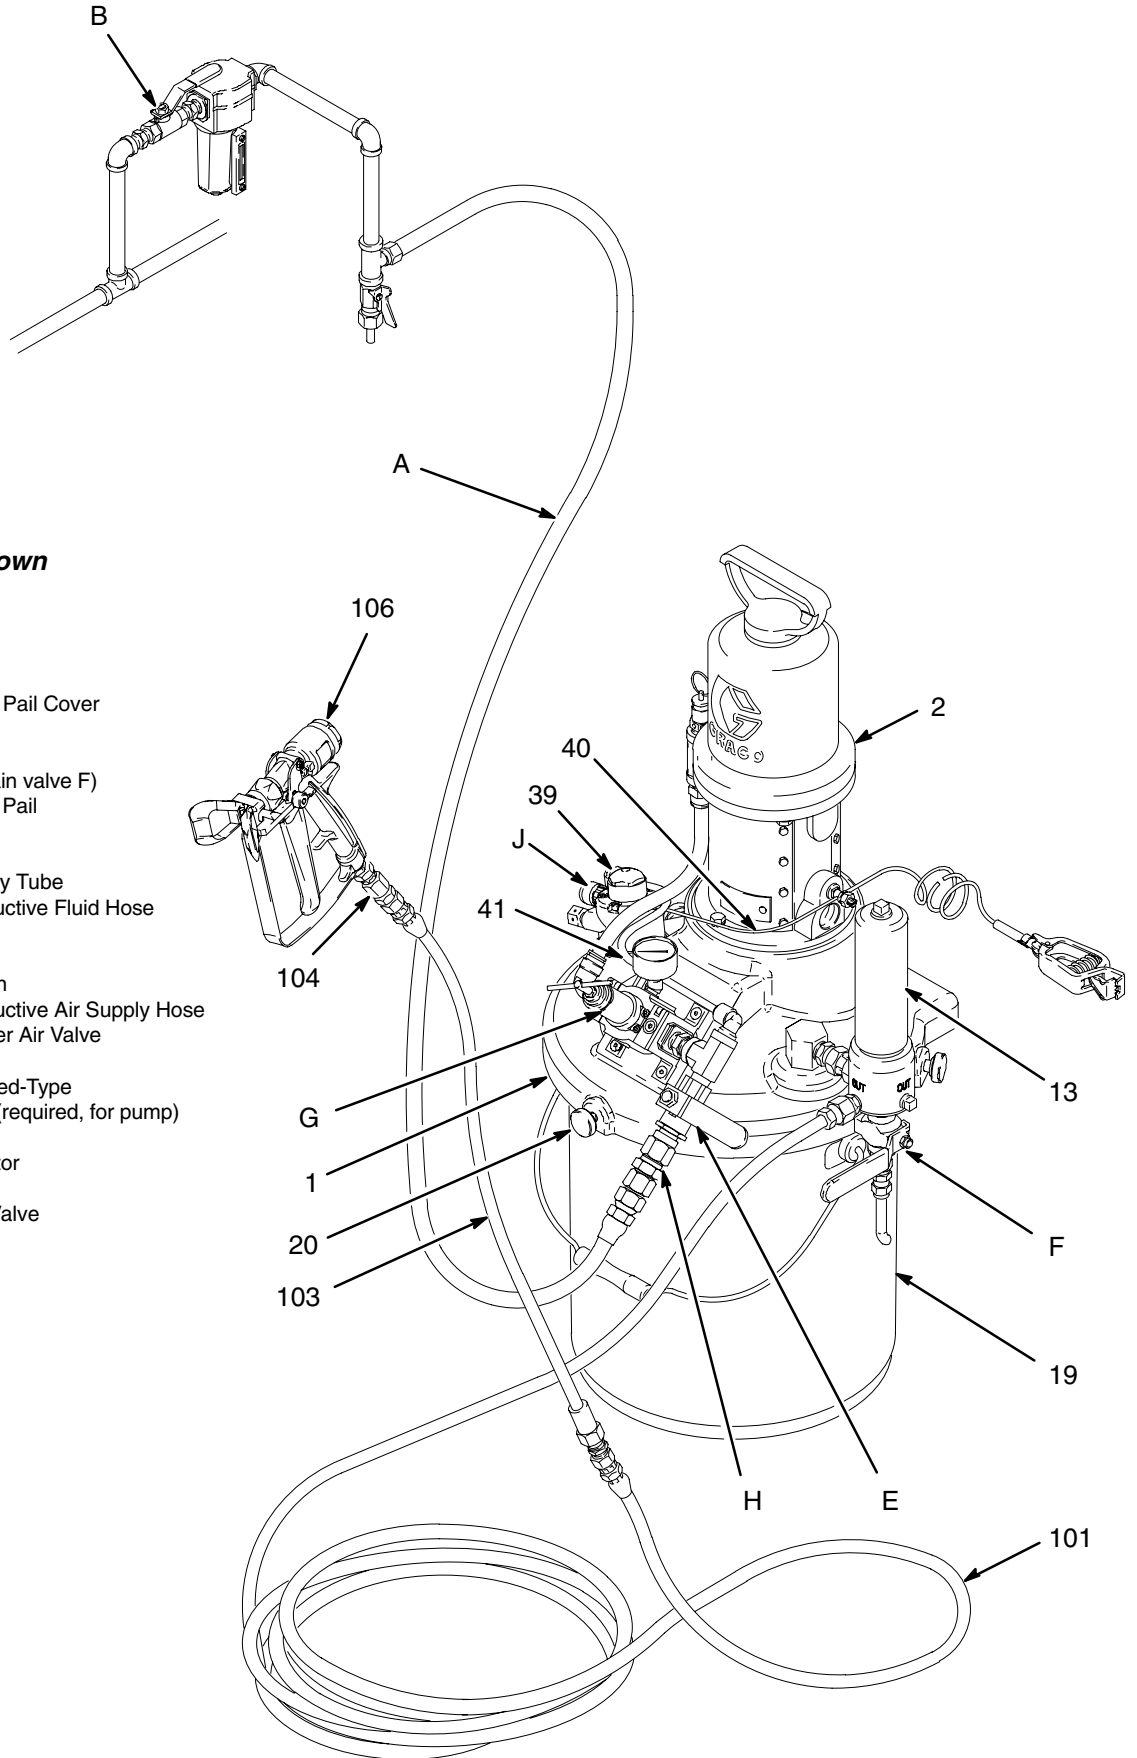

Fig. 3
2. Close the red-handled bleed-type master air valve (E, required in your system). See Fig. 3 on page 13.
1. See Fig. 3. Remove the tip guard and spray tip from the gun (106). Refer to the gun manual.
2. Close the pump air regulator (G), and bleed-type air valves (B, E).
3. Connect the air line (A) to the air inlet swivel (H).
5. Fill the pail (19) with fluid. Make sure the pail cover (1) is fastened securely to the pail with the screw knobs (20).
6. Close the fluid drain valve (F).
7. Hold a metal part of the gun (106) firmly to the side of a grounded metal pail and hold the trigger open.
8. Open the bleed-type air valves (B, E). Slowly open the pump air regulator (G) until the pump starts.
11. If the pump fails to prime properly, open the drain valve (F). Use the drain valve as a priming valve until the fluid flows from the valve. Close the valve.
1. Slowly open the control valve (J) to start the agitator (39). See Fig. 3.
2. Use the valve (J) to adjust the speed. Do not operate the agitator too fast. If the fluid foams or a vortex forms on the fluid surface, reduce the speed of the agitator.
1. Start the pump. Use the pump air regulator (G) to adjust the pump speed and fluid pressure until the spray is completely atomized. Use the lowest pressure necessary to get the desired results. Higher pressure may not improve the spray pattern and will cause premature tip and pump wear. See Fig. 3.